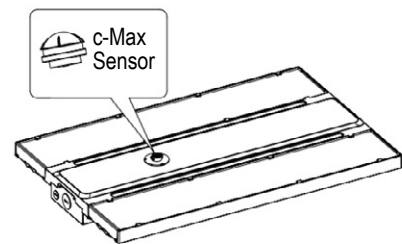

Figure 12
2. Plug the c-Max control node into the USB receptacle. Rotate the outer ring until arrows align. Tighten set screw. (see Fig. 12)